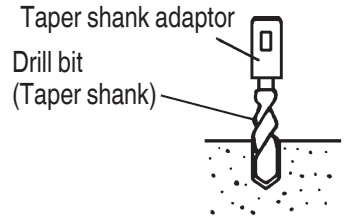
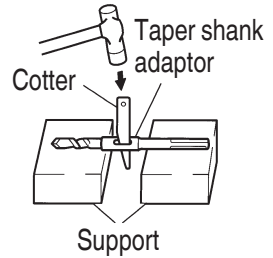

Fig. 15
Fig. 16
- (1) Install drill bit with taper shank in the taper shank adaptor. (**Fig. 15**)
- (2) Turn the power on and drill a base hole.
- (3) After cleaning out dust with a syringe, attach the plug to the anchor tip and drive in the anchor with plug to the anchor tip and drive in the anchor with a manual hammer.
- (4) To remove the drill bit with taper shank, insert a cotter into the slot of the taper shank adaptor, place supports under the Rotary Hammer and tap the cotter with a manual hammer. (**Fig. 16**)